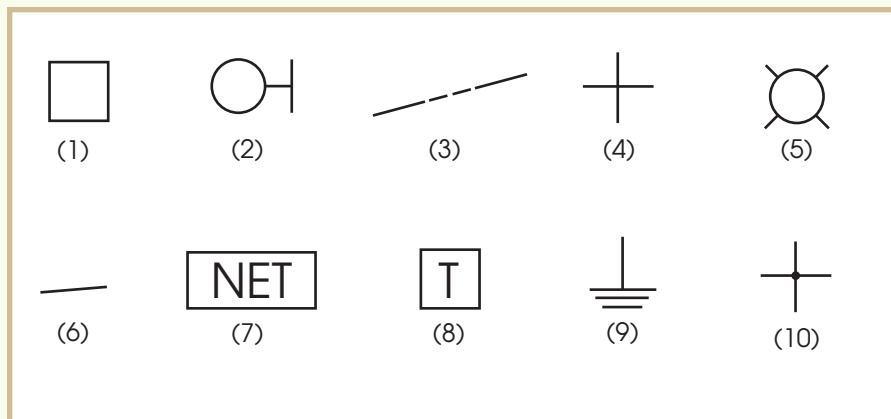

FIGURE A-4—Use this illustration to answer Questions 14, 15, and 16.
14. Examine the schematic symbols in **Figure A-4**. Which symbol represents a manhole?
15. Which of the schematic symbols illustrated in **Figure A-4** represents a direct burial cable?
16. Referring to **Figure A-4**, which of the following statements is correct?